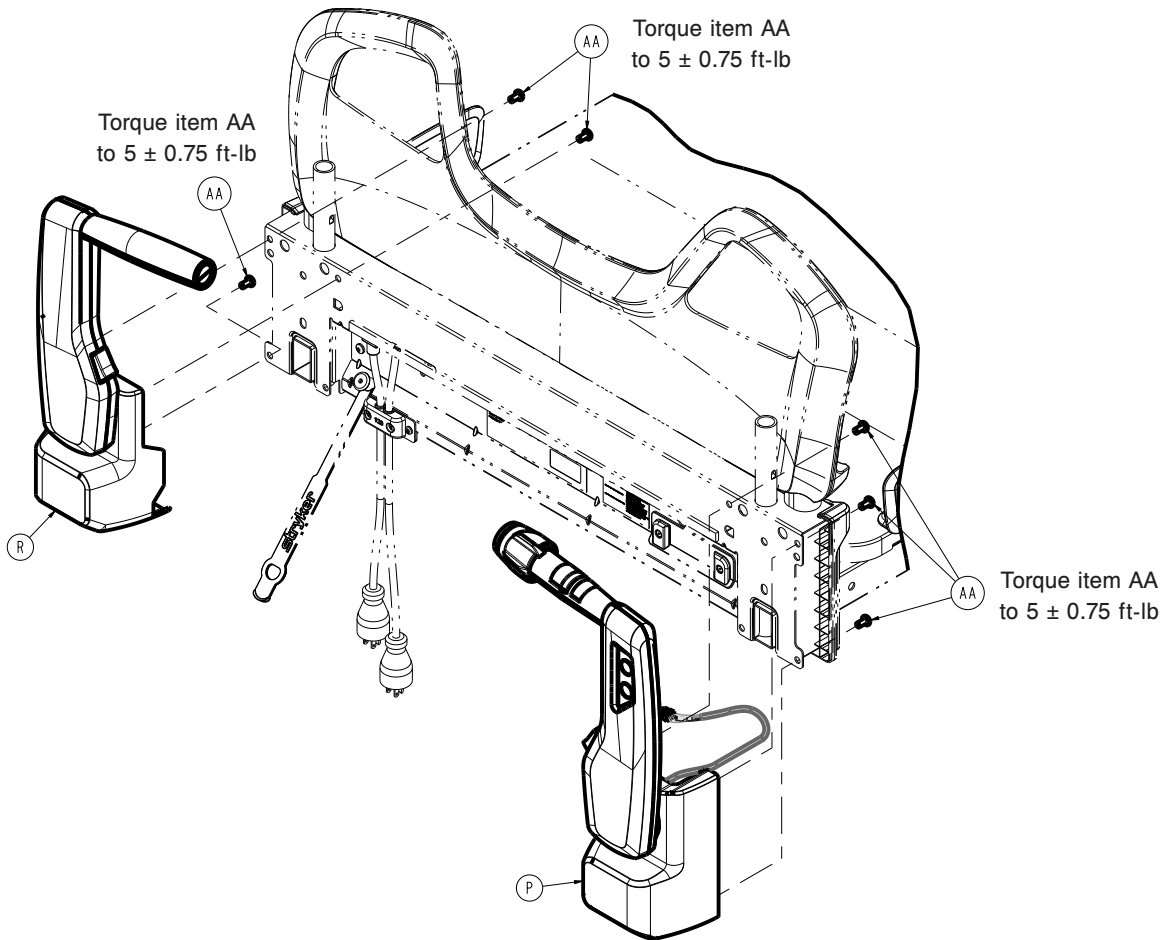

Figure 51 – Removing the Zoom handle assembly
11. Using a T25 Torx driver, remove the three screws (AA) that secure the **Zoom** drive handle assembly (P) to the head end litter weldment and remove the **Zoom** drive handle assembly (P) (Figure 51). Save the screws.
8. Using a T25 Torx driver, remove the three screws (AA) that secure the **Zoom** push handle assembly (R) to the head end litter weldment and remove the **Zoom** push handle assembly (R) (Figure 51). Save the screws.